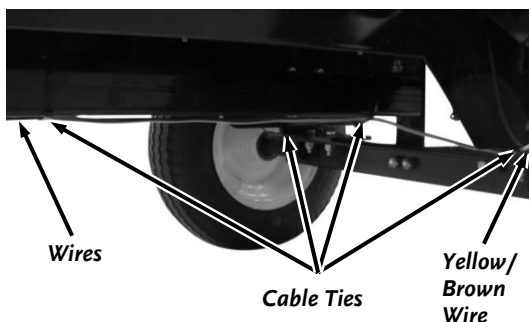

Figure 14
7. Position the Yellow/Brown Wires along the left side of the axle and up to the light location over the Fender (Figure 14).